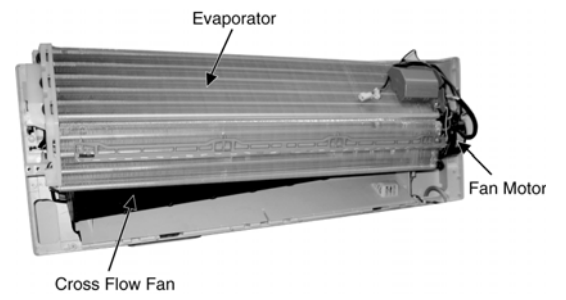

Fig. 12
- Lift up the Evaporator and remove the Cross Flow Fan from the unit by pulling it to the left and downward. Fan Motor can be removed after the removal of the Cross Flow Fan. (Fig. 12)